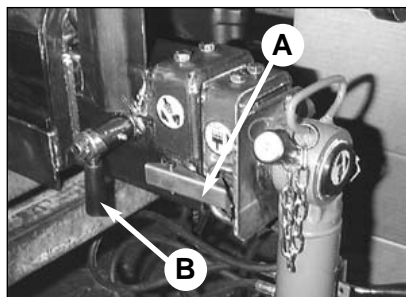

fig. 10
- Position the lever **B** of the locking device (fig. 10), placed on the base, upwards (fig. 10a); the spring loaded security pin of the device will be released from its position.